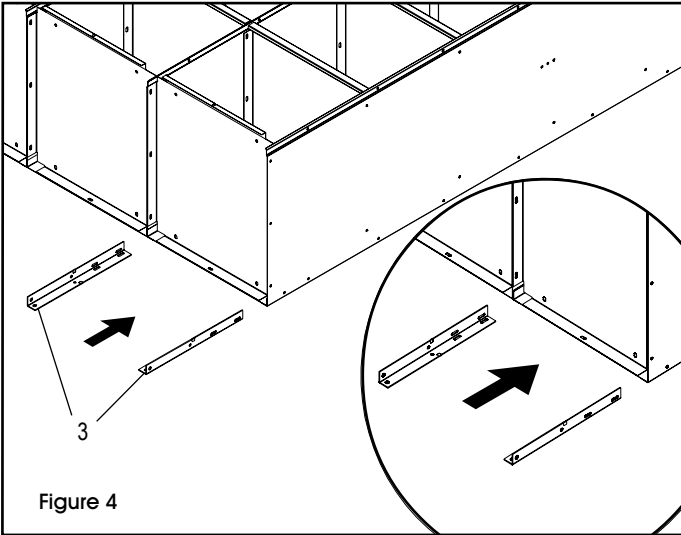

Figure 4
6. Insert legs (3) into the corner between the bottom and the side. Bolt the leg to the side using two bolts and nuts per leg. (See Figure 4)